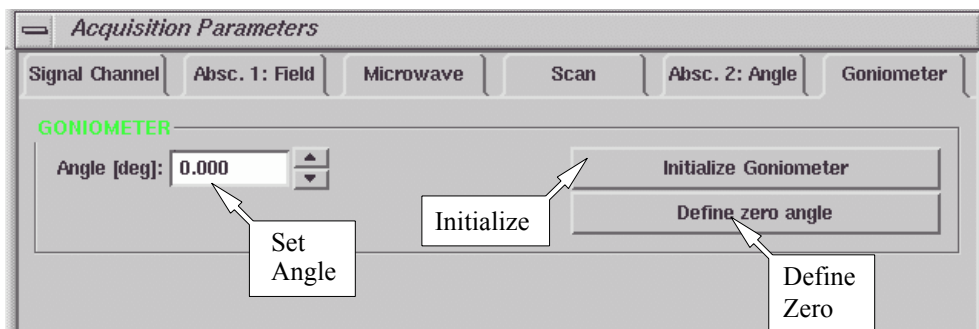

Figure 12-32 The Goniometer folder in the Acquisition Parameter dialog box.
Click the Goniometer tab. (See Figure 12-32.)
3. **Initialize the goniometer.** Make sure the shaft is in place. Click the **Activate** button. Click the **Initialize Goniometer** button in the **Goniometer** folder. The software will search for the 0 notch on the goniometer and initialize that point as the “home” point. (See Figure 12-32.) Meanwhile the angle display in the monitoring panel will turn from red to green. (See Figure 12-33.)